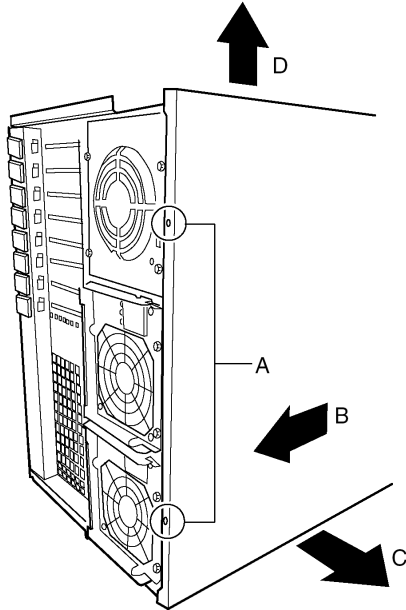
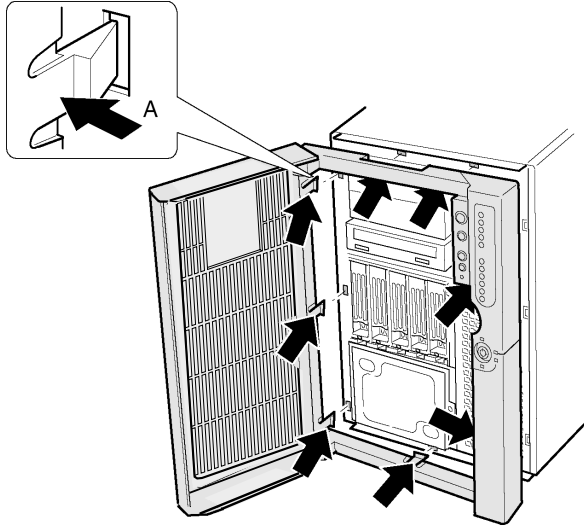

Figure 58 - Removing the bottom panel
Figure 60 - Removing the original tower bezel
- 1 Orient the server so it is resting on its feet as shown in Figure 58.
- 2 Remove the two screws (Figure 58, A) located on the rear edge of the bottom panel.
- 3 Slide the panel toward the rear of the chassis (Figure 58, B).
- 4 Using the orientation shown in Figure 60 as a reference, grasp the bottom edge of the cover (Figure 58, C) and tilt it out. Then lift the cover straight up (Figure 58, D) to free it from the tabs on the chassis.
- 4 Press on each of the eight plastic tabs (Figure 60, A) on the frame of the bezel until all the tabs are free of their slots and then lift the bezel off the chassis.